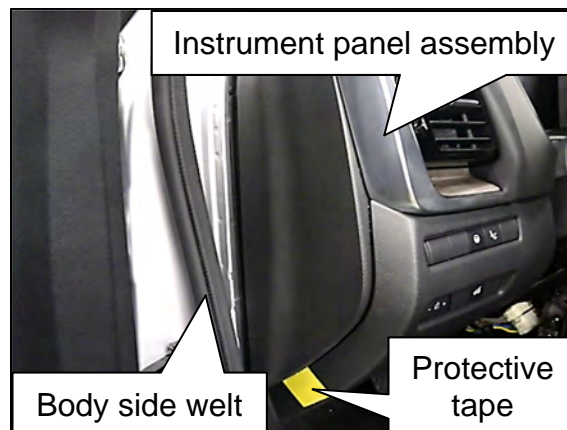

Figure 55
38. Remove the LH side body side welt, and then apply protective tape, as shown in Figure 55, to protect the instrument panel assembly from damage.